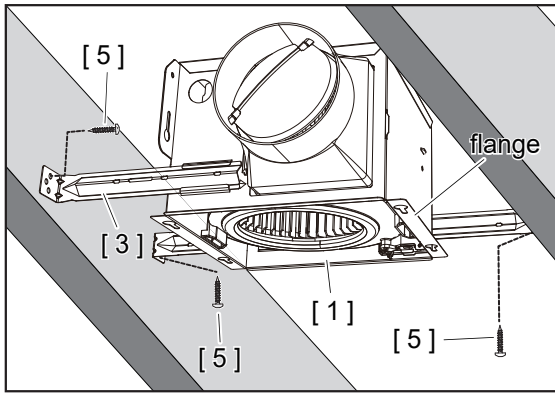

Fig 14
2. Insert the third Long Bracket [3] to the slot at the duct side of Fan Body [1] as figure shows. (Fig 14)
Note: Make sure the Fan Body [1] is level and perpendicular with the joist, and flush with the surface of the joists which are connected to the ceiling surface. (Fig 14)
4. Secure the brackets to joists with Long Screws [5]. (Fig 14)